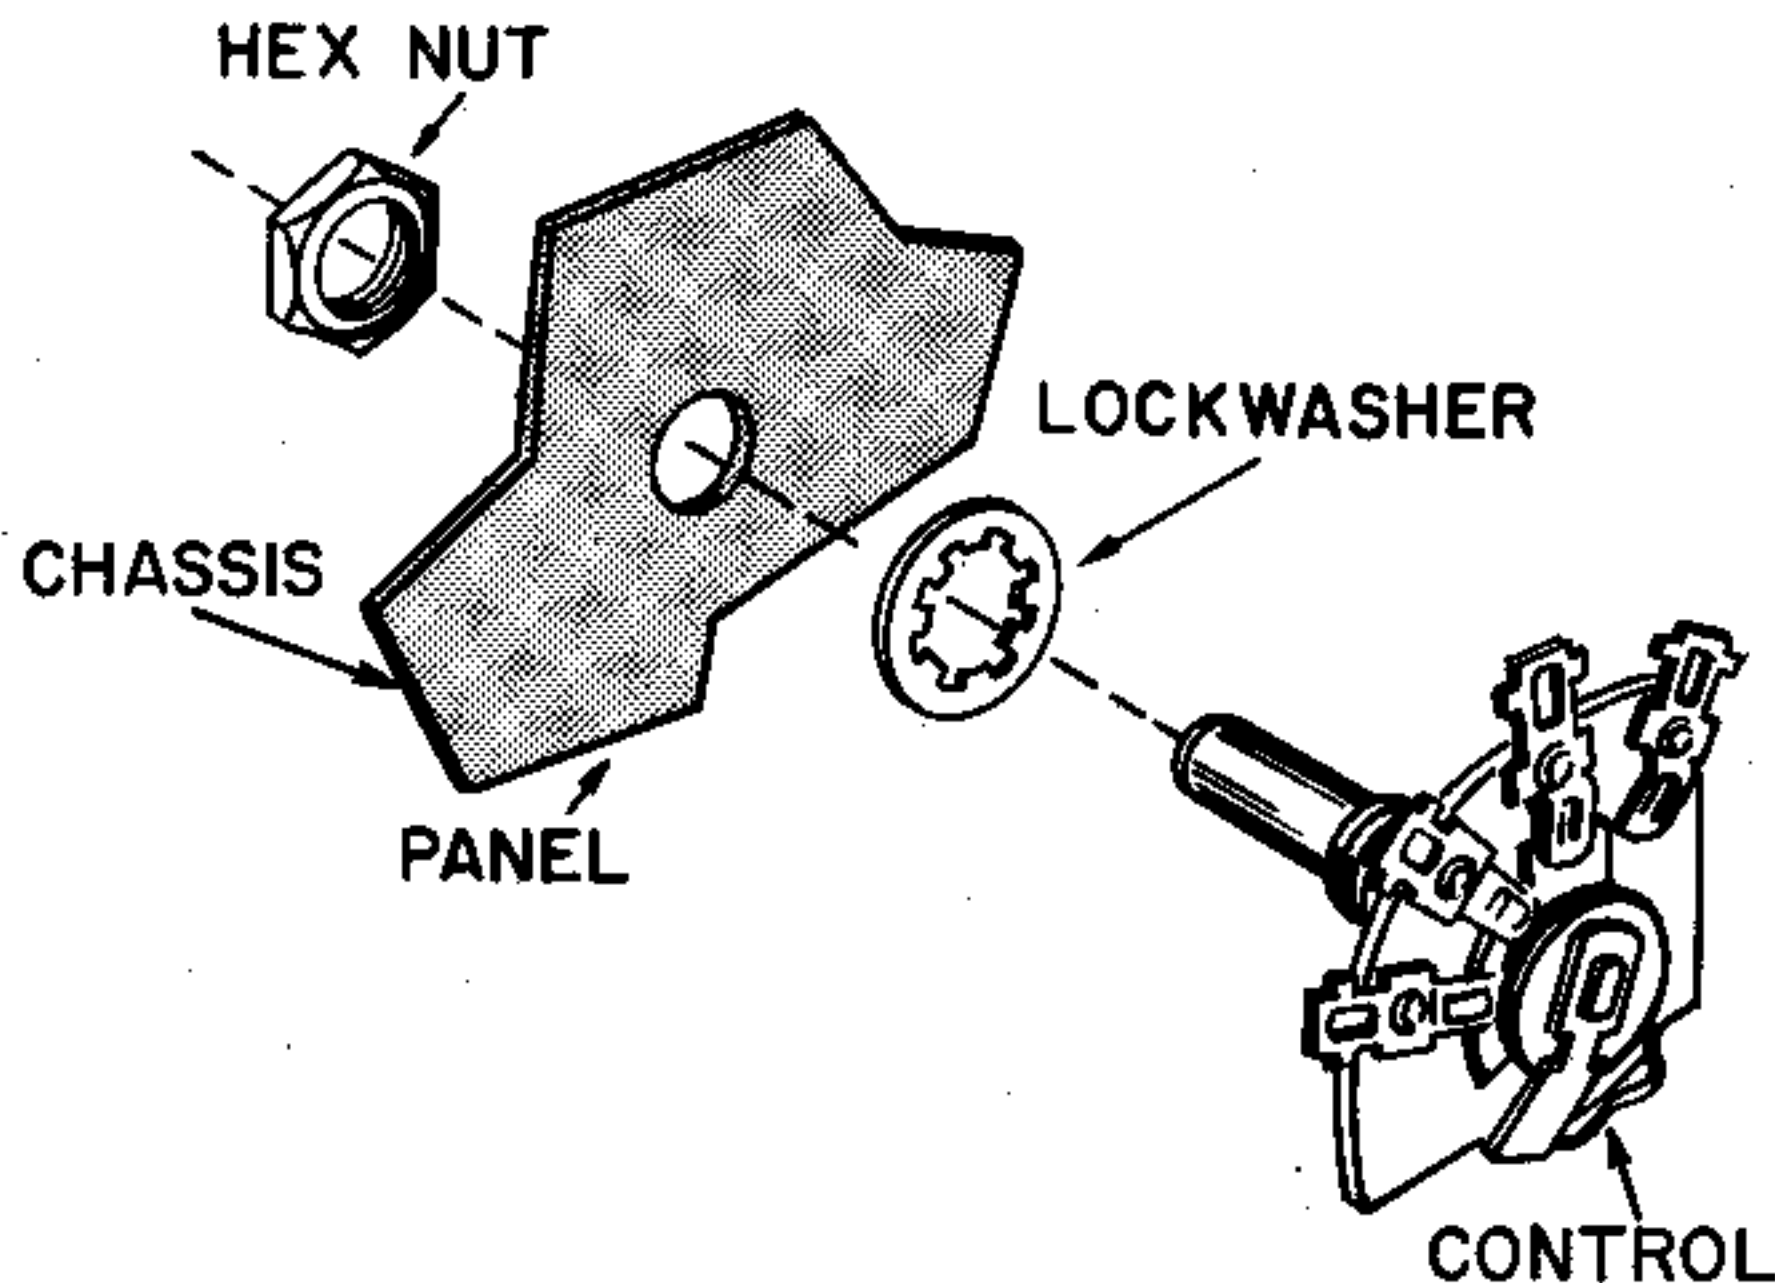

FIGURE 4. HOW TO MOUNT A CONTROL
- ✓ From inside the chassis, mount S-3, the BFO-MVC-AVC-ANL switch on the front. Use one 3/8" lockwasher and one nut. See Figure 4. Position the terminals as shown in Figure 3.
- Permanently mount R-2 and S-4 inside the chassis. Use hardware as shown in Figure 4. Carefully route the 9-conductor cable as shown in Figure 11. To protect S-4, do not allow the cable to pull on the switch.